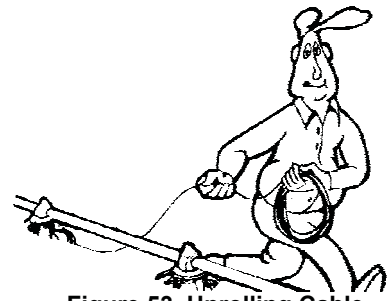

Figure 53. Unrolling Cable
1. Unroll the anti-roost cable. Note: If the cable is unrolled as shown see **Figure 53**. Take 5 loops of the coil with one hand then changing hands to remove 5 loops as it is unrolled, it will lie flat during installation.